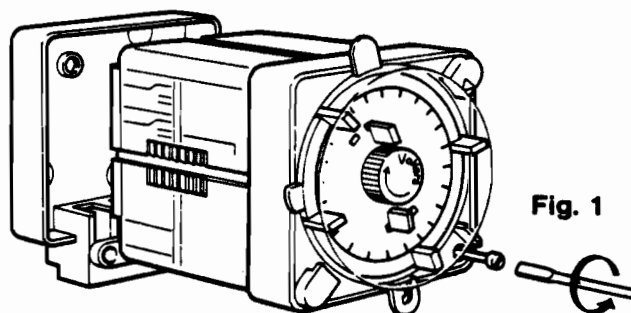

Fig. 1
- 10.5 Remove screw. Grip the backplate firmly by the corners nearest the terminal block and pull off the back plate (fig 1).